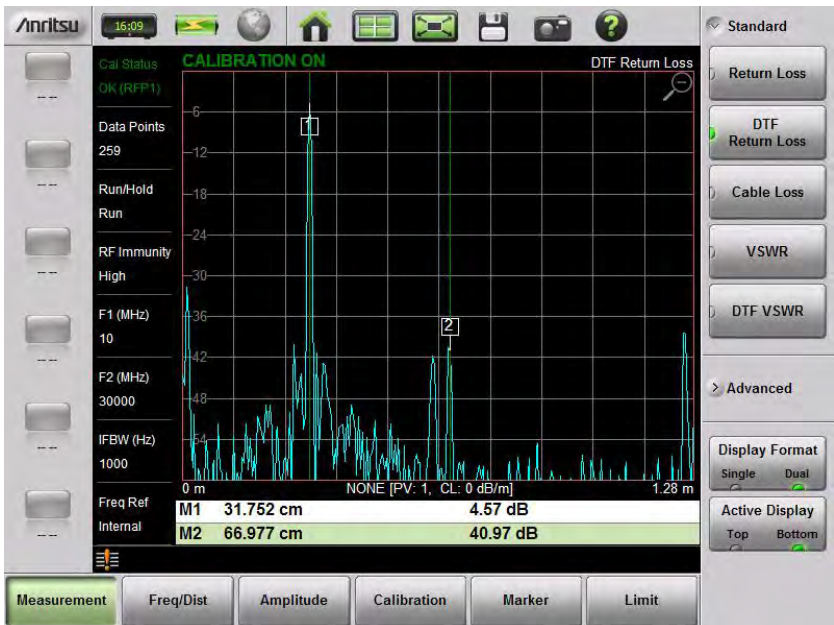

Figure 2-15. Dual Display Format with Bottom Display Maximized
5. Figure 2-15 on page 2-27 shows the Bottom graph maximized. Tapping on the magnifying glass restores the dual display.